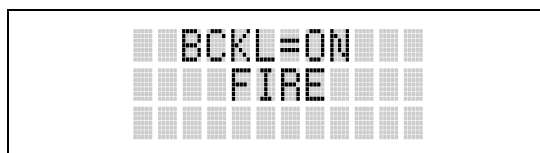

Figure 10-7: Backlight Menu Display
3. Press M . The backlight menu item is activated. Line one shows the active menu item and its current parameter setting. Line two shows the currently selected system or group name (see Figure 10-7).